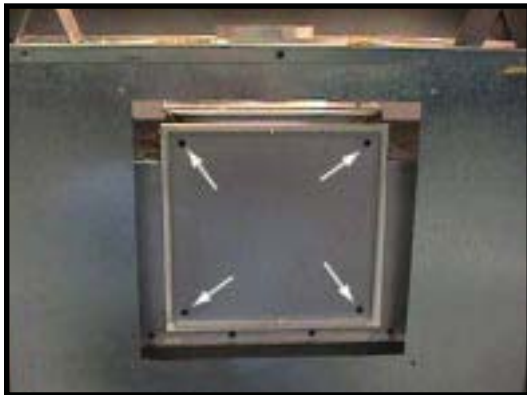

Figure 11 - Remove Outer Cover Plate
7. Remove four screws holding the outer cover plate to the appliance back. See Figure 11. Remove the outer cover and white gasket.